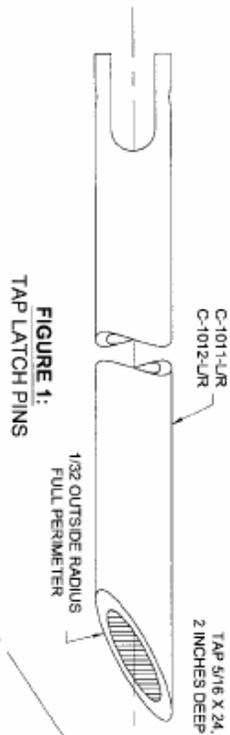

FIGURE 1:
Step 1: Tap the inside diameter of the beveled end of the C-1011-L/R Forward Latch Pins and C-1012-L/R Aft Latch Pins as shown in Figure 1. Radius the full perimeter of the outside edge of the beveled end of the forward and aft latch pins as shown in Figure 1.